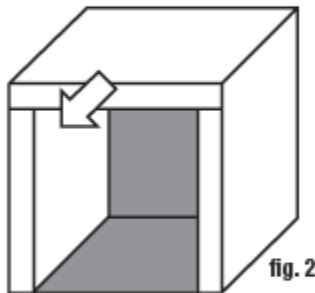

fig. 2
- Install the TUFECOTE® TBK Faced Foam to the inside of the housing and over the vibration control tape (fig. 2).